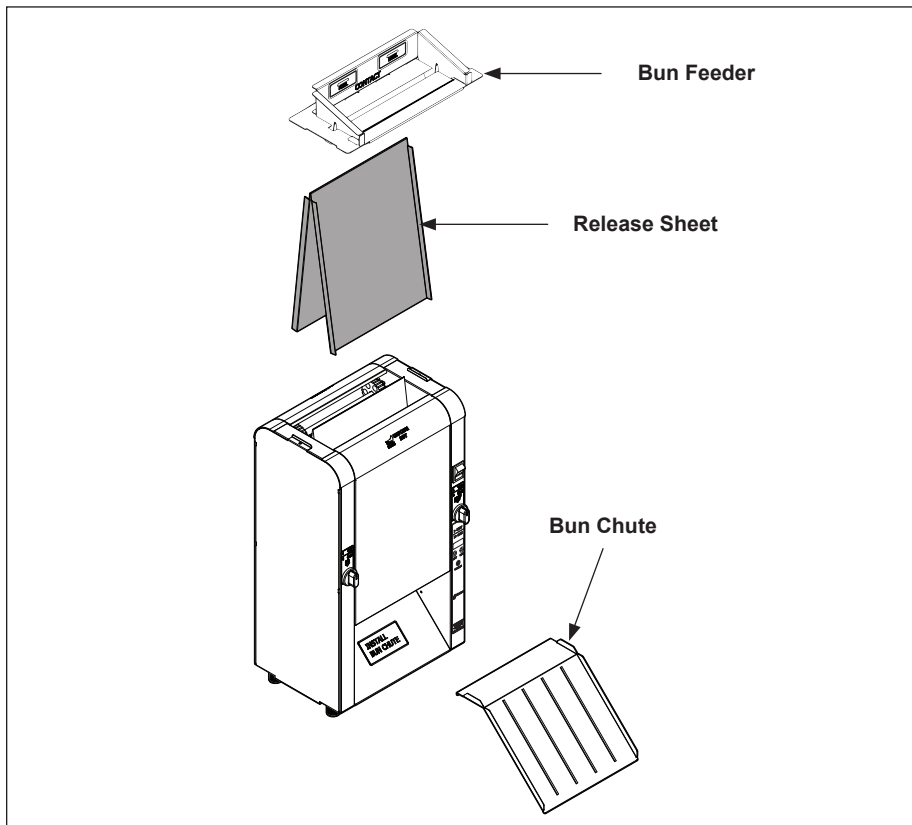

Figure 1. Components
3. Refer to Figure 1. Wash, rinse, and sanitize the Bun Feeder, Bun Chute, and Cleaning tool at the 3 compartment sink and set aside to air dry.
4. Refer to Figure 1. Remove the Release Sheet.
7. Install the Bun Feeder and Bun Chute onto the unit (Figure 1).